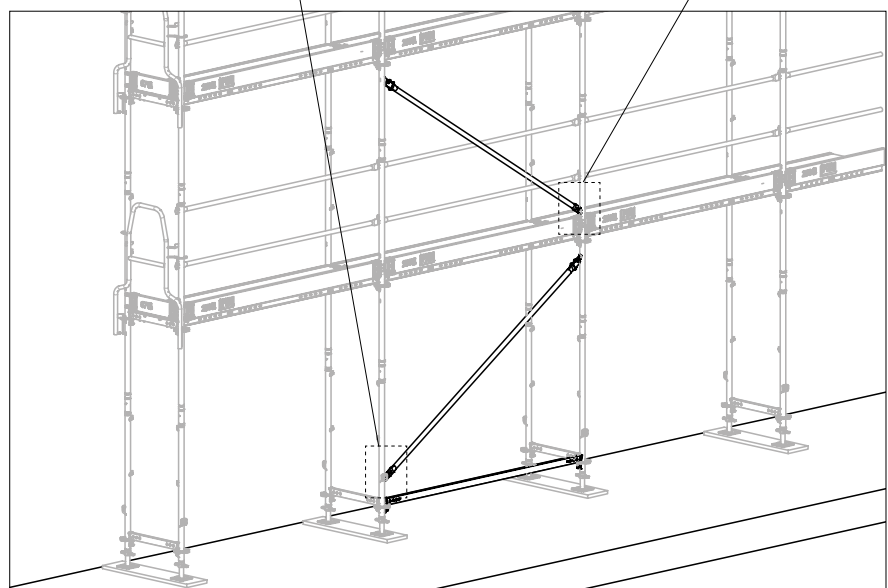

Fig. A5.02
- In the Easy Base Standard EVS (23) see Fig. A5.02+ A5.02a
- In the Easy Standard EVM (22) see Fig. A5.02+ A5.02b